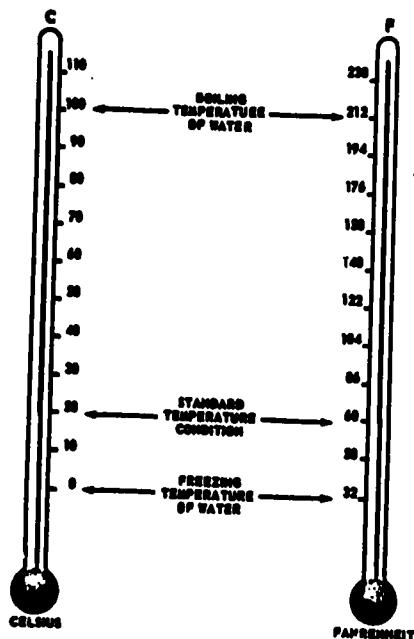

Fig 1-1. A comparison between the Celsius and the Fahrenheit thermometer scales.
a. **FAHRENHEIT SCALE** - This scale figure 1-1, is based on the relative positions of the mercury in the thermometer when water is at the freezing point and when water is boiling. In order to use this instrument to measure temperature in between these two points, the distance was divided into 180 equal increments which were called degrees. The point where water will either freeze or ice will melt, under normal atmospheric conditions, was labeled as 32 degrees. Whereas the location, on the scale (thermometer) where water would boil was indicated as 212 degrees.
b. **CELSIUS SCALE** - This scale figure 1-1, formally referred to as centigrade, was based on the decision to divide the area between the freezing and boiling points of water into equal increments. 0 degrees indicates the freezing point and 100 degrees indicates the point at which water will boil.